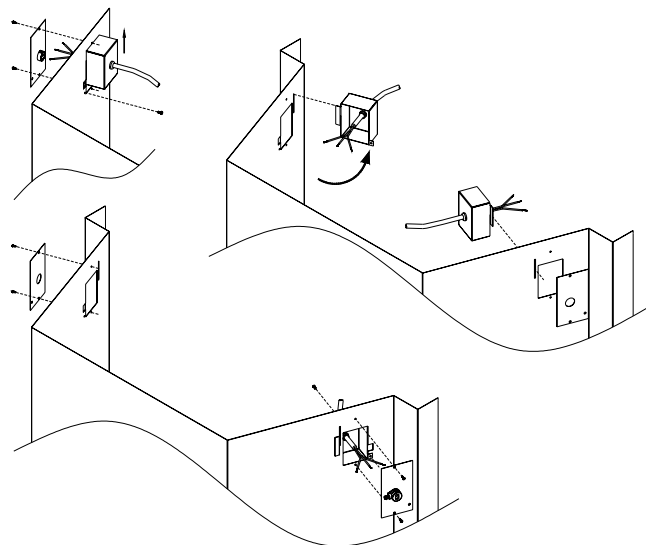

Figure 7 – Relocating Junction Box to Left Side
1. Remove the 2 screws and outer cover on the right side (see **Figure 7**).